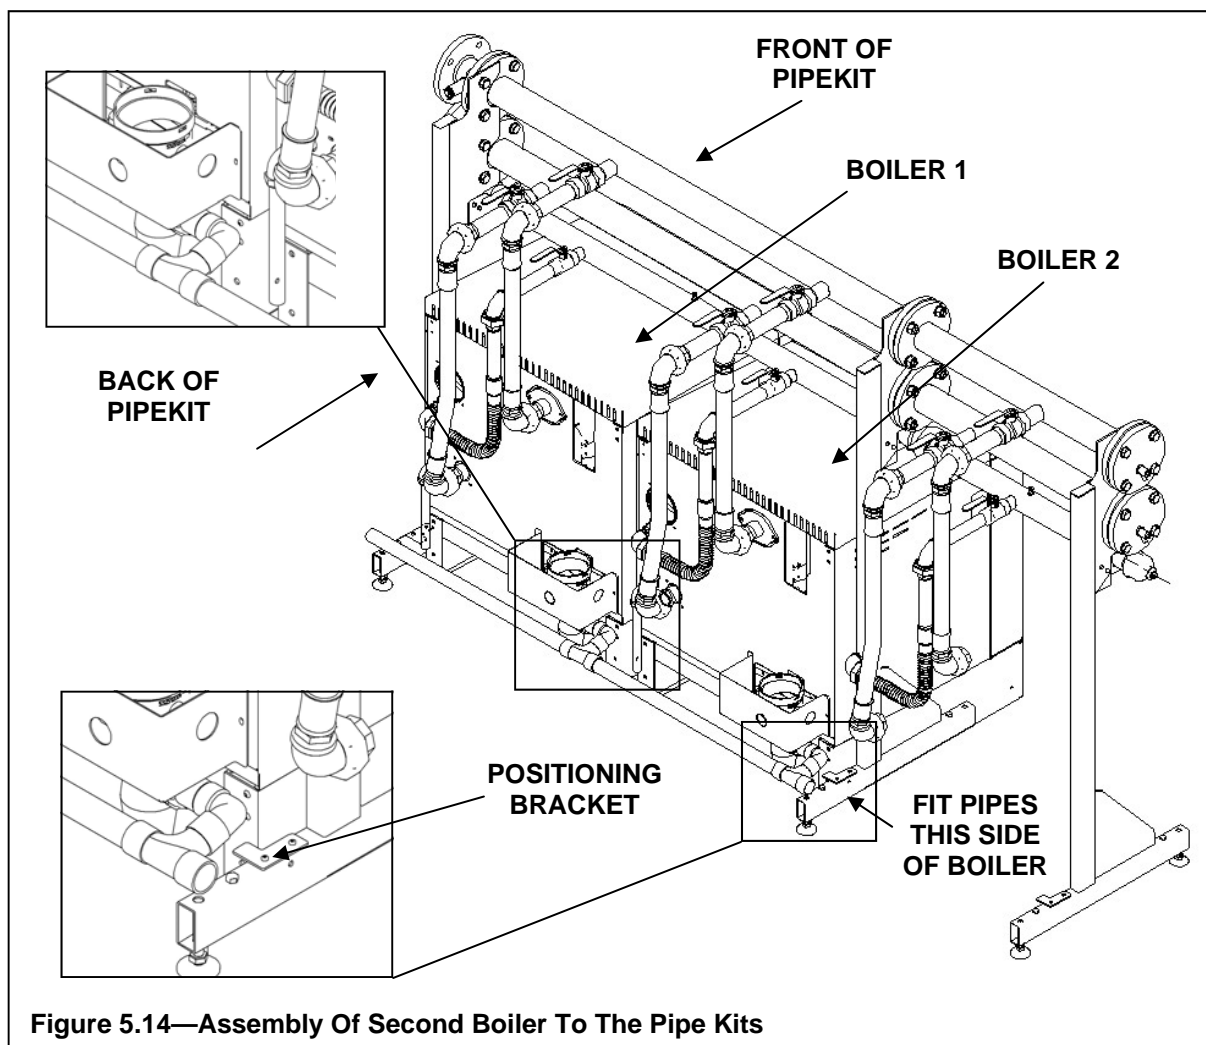

Figure 5.14—Assembly Of Second Boiler To The Pipe Kits
5.33 See Figure 5.14. Position a second boiler (Boiler 2) to the right of Boiler 1 under the pipe kit. The back of Boiler 2 to be against the L-shaped locating bracket on the right hand leg. The side panel of Boiler 2 to be 50mm from Boiler 1.